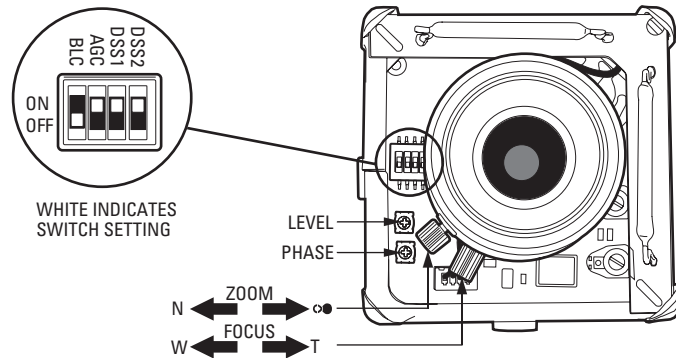

Figure 5. Default Switch Settings and Location of Camera Adjustments
1. Select a field of view by turning the zoom adjustment ring clockwise/counterclockwise. Refer to Figure 5.
2. Select a camera and synchronize it to the reference camera by turning the phase adjustment control (refer to Figure 5) clockwise and/or counterclockwise.